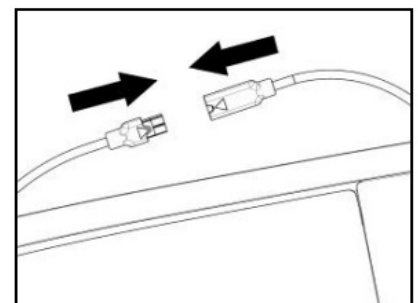

Fig. 8
- Connect the battery to the wiring system (Fig. 8).